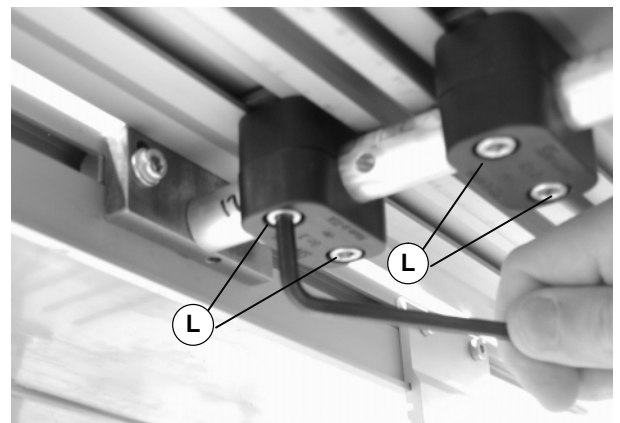

Figure 11
- Adjust horizontal position of table. Tighten clamp screws (L of Figure 11).